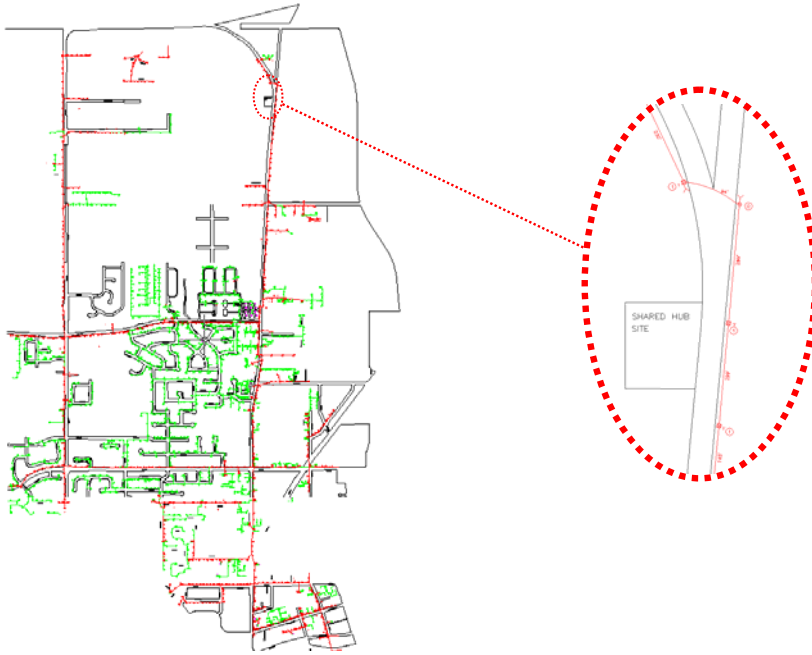

Figure 18 – Location of Shared Hub Site in sample Landbase-Strand drawing
1. Zoom the AutoCAD window to an extent centered on the SHARED HUB SITE shown in Figure 18, above.
Now let's draw a boundary of type "Shared Hub" around the map area we imported in Step 2, and shown in Figure 18.
1. Make sure the area shown in Figure 18 is visible on the screen. If it is not, run the menu command **SPATIALnet > View > View Manager...** to bring up the **Saved Views** dialog box, highlight the view named "SHARED HUB SITE", and click on **Open>>**. Zoom until you have the area you need in the window, and use the **Refresh** button on the **View** toolbar if you need to bring in more data from the database.